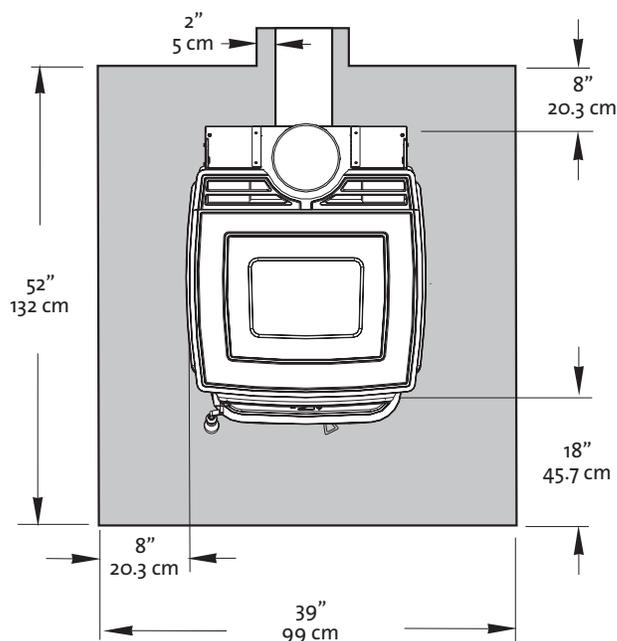

Figure 10. Floor Protection minimum dimensions, Canada.
**In Canada,** floor protection must extend 18" from the front of the stove and 8 in. (460mm) from the sides and rear. It must also extend 2 in. (51 mm) under any horizontal chimney connector. This results in a floor protector dimension of 39 in. x 52 in. (99 cm x 52 cm) See fig.10.